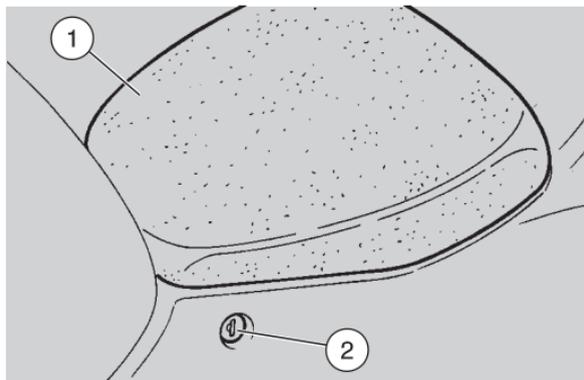

Fig. 8
- To unlock the saddle, introduce the ignition key in the lock (2-Fig. 8) and turn it clockwise, after which you can raise the saddle (1-Fig. 8).